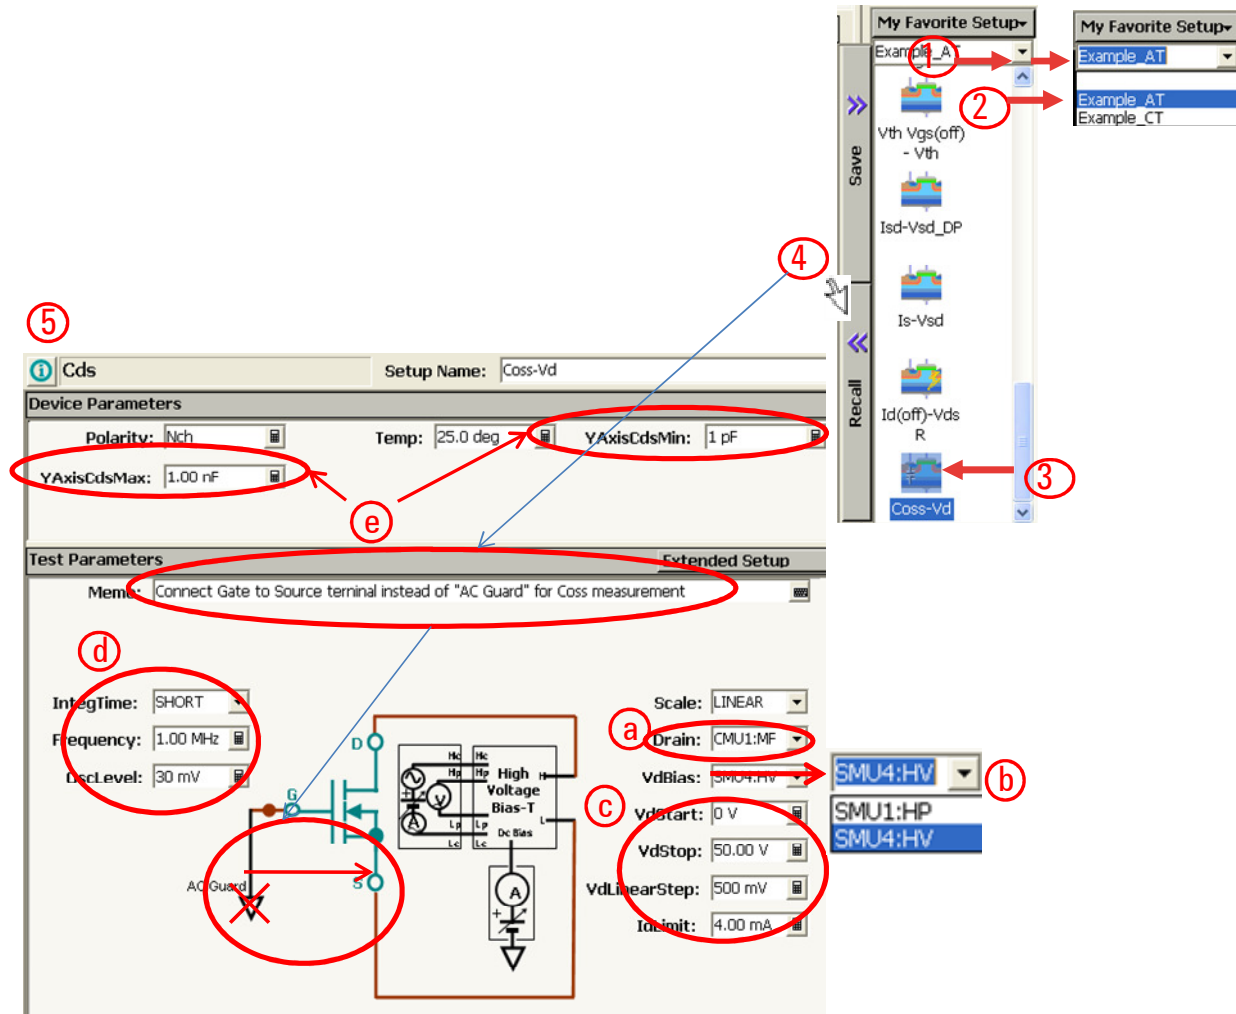

Figure 3-75. Coss-Vd Application Test setup.
Setup and execute the test by following the next steps. The same instruction steps are illustrated by the numbers on the "1. Starting from Application Test Library" side of figure 3-75.
Step 5. Set the test parameters shown in figure 3-75 to an appropriate one depending on your B1505A configuration and your test device.